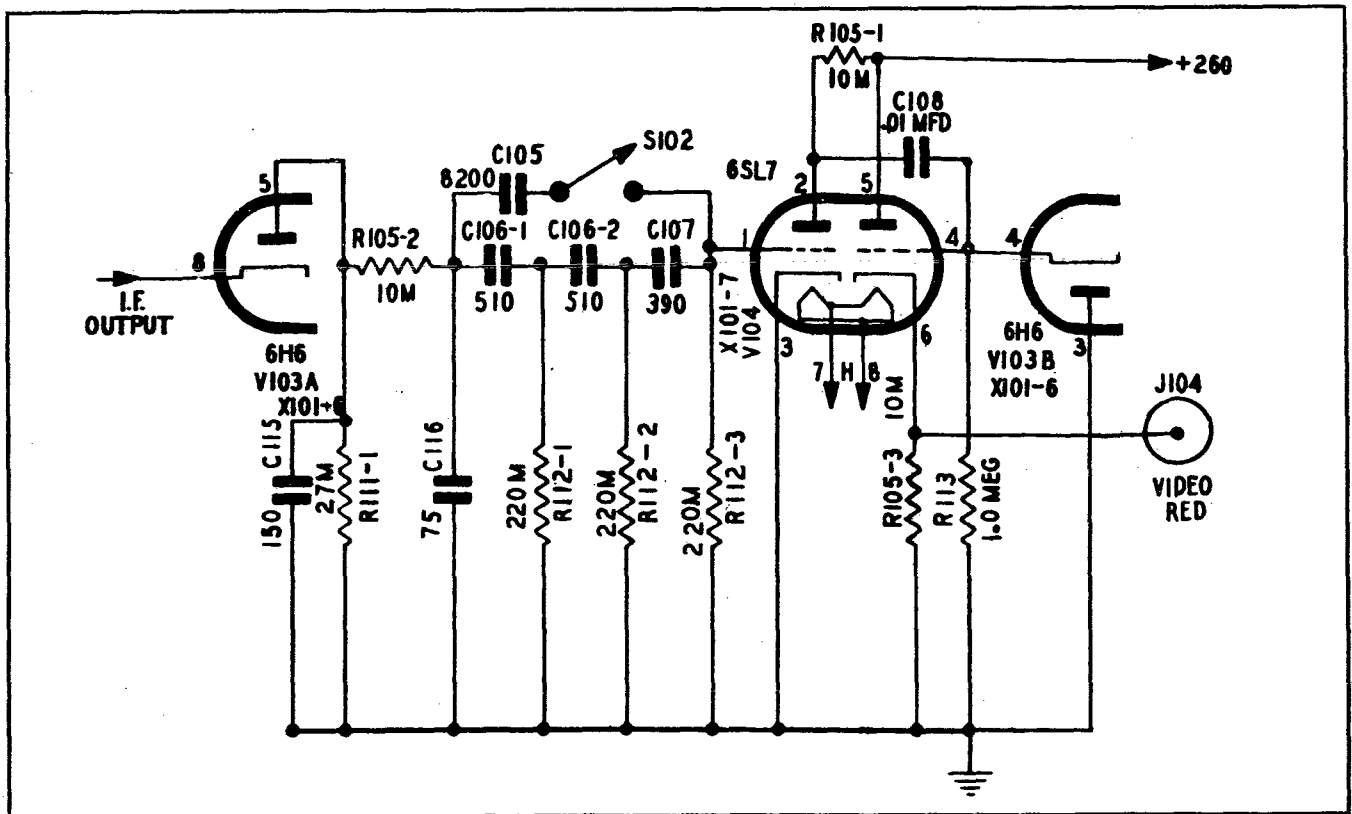

Figure 4-36. Receiver, Detector, and Video Amplifier Circuits
(4) DETECTOR-VIDEO AMPLIFIER. (See figure 4-36.)—The A-section of duo-diode tube V-103 functions as the detector for Radio Receivers *R-9A/APN-4 and *R-9B/APN-4. The detector is conventional, except that the amplified i-f signal is fed to the cathode instead of the plate. The detector output, therefore, appears across diode load resistor R-111-1 as a negative video pulse. The i-f component is removed from the rectified pulse by the filter action of capacitors C-115 and C-116 and resistor R-105-2. The high-pass filter, which consists of capacitors C-106-1, C-106-2 and C-107, and resistors R-112-1, R-112-2 and R-112-3, is effective against the low-frequency interference caused by generators and motors, and extends its effectiveness well into the high-frequency audio band. Since the filter action also causes some attenuation of the normal video pulses, capacitor C-105 and switch S-102 (controlled from the receiver front panel by the "FILTER IN-OUT" adjustment) feed the video signal around the filter, when filter action is not needed. The filter is out of the circuit when switch S-102 is closed, and in the circuit when the switch is open. (See fig. 4-36.) The rectified and filtered video pulse is fed to the grid of the A-section of tube V-104, where it is amplified and passed on to the grid of the B-section of the same tube as a positive video pulse. The B-section of duo-diode tube V-103 is connected across the grid of tube V-104-B to cause rec-